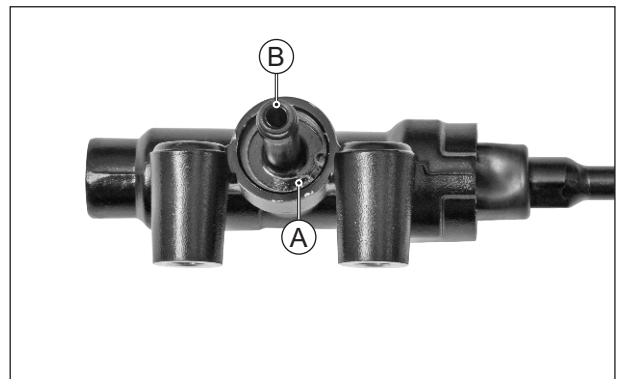

Fig. 6.126
- By firmly holding master cylinder housing, remove the circlip (A) by using circlip plier. (Fig. 6.126)
- Take out the insert (B) from the master cylinder assembly. (Fig. 6.126)